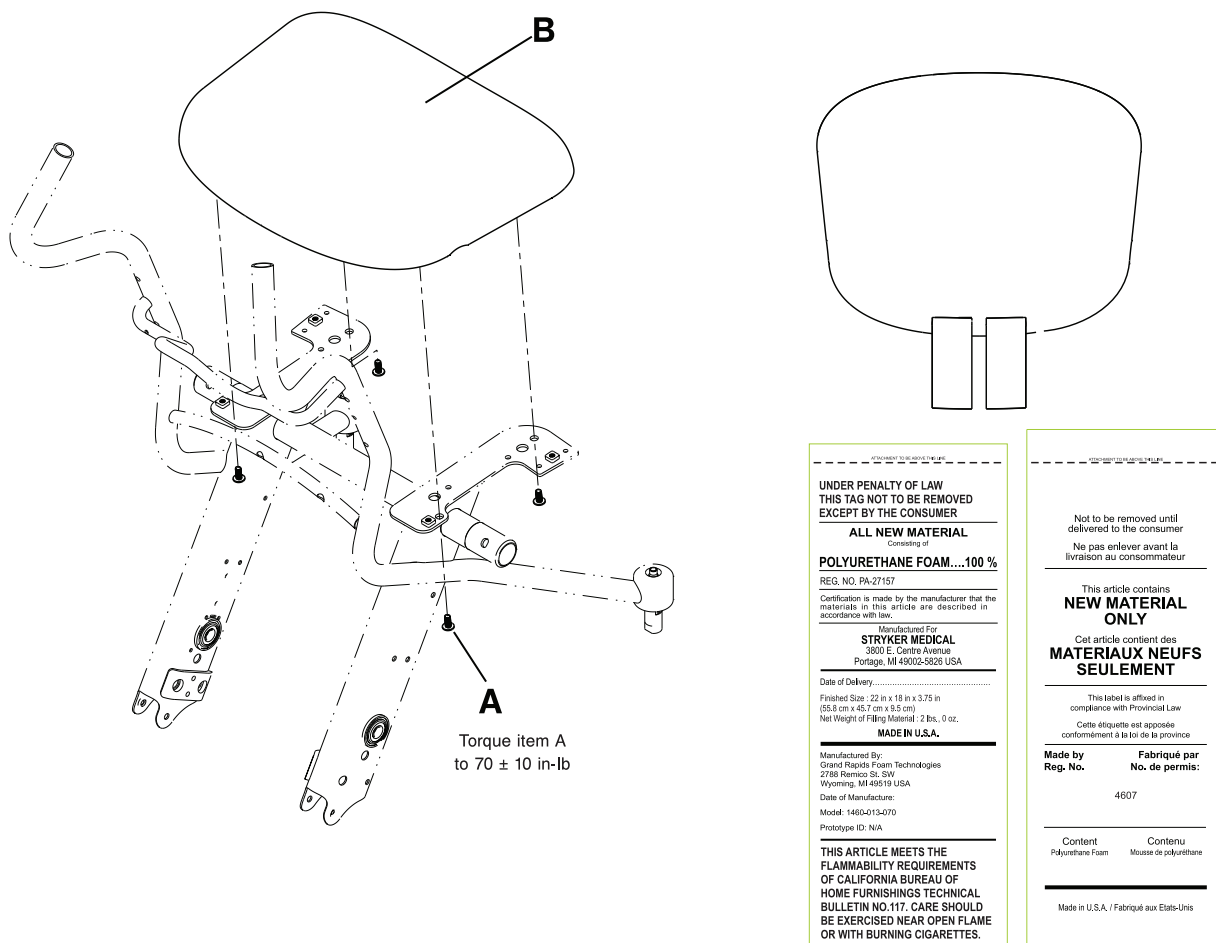

Figure 23: Seat replacement
1. Using a 3/16" hex wrench, remove the four button head cap screws (A) that secure the seat (B) to the chair frame (Figure 23 on page 40). Discard the seat and screws.
2. Using a 3/16" hex wrench, install the four supplied button head cap screws (A) to secure the supplied seat (B) to the chair frame. Using a 3/8" drive torque wrench, torque the screws to 70 ± 10 in-lb.